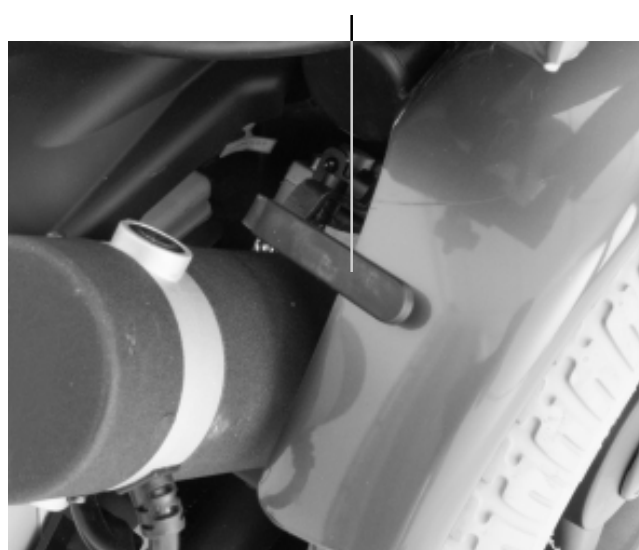
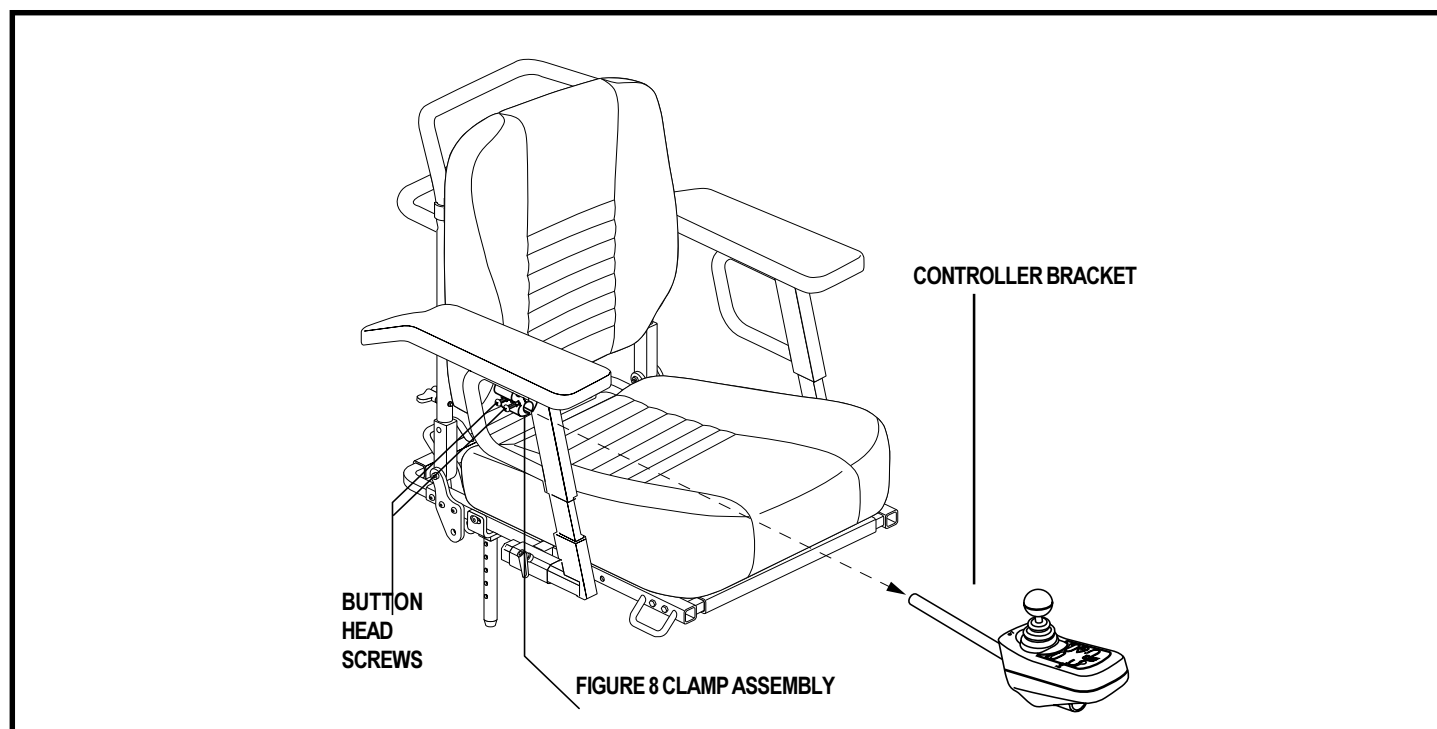

Figure 8. Drive Mode (Drive Engaged)
Figure 15. Controller Position
2. Push the manual freewheel lever outward for drive mode (drive engaged). See figure 8.
4. Loosen the button head screws on the figure 8 clamp assembly located on the armrest. See figure 15.
8. Tighten the button head screws to secure the manual recline lever assembly in the figure 8 clamp.
10. Tighten the button head screws to secure the controller in the figure 8 clamp.